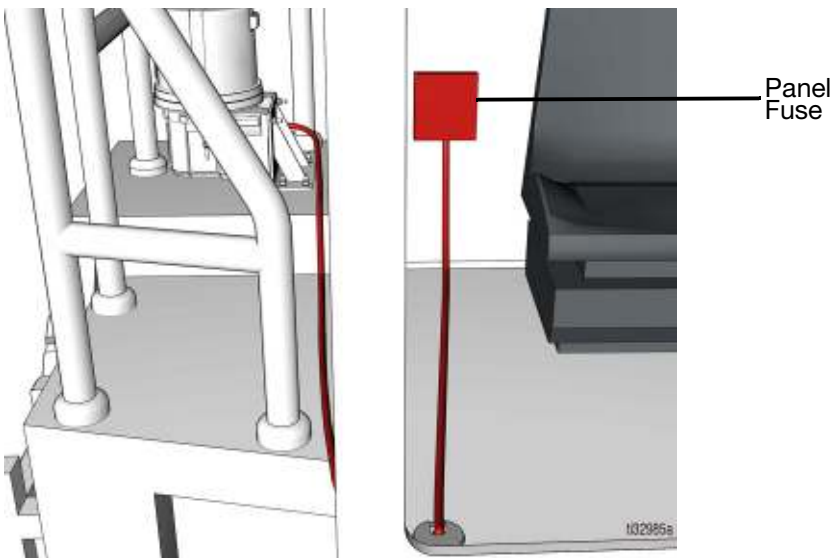

FIG. 13
2. Route the power cable into the cab through the rubber grommet located under the floor mat (FIG. 13).